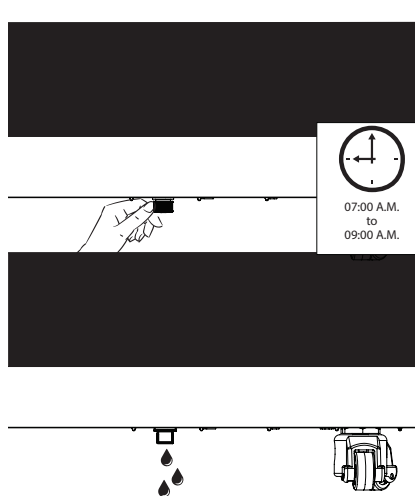

fig. 17
3. Place a tray under the condensation water drain. If the appliance has an auto-drainage system, no need for tray. See fig. 17
When ordering spare parts, please state the type, serial and product numbers of your appliance. This information is given on the rating plate (fig.17). The rating plate contains various technical information, including type and serial numbers.